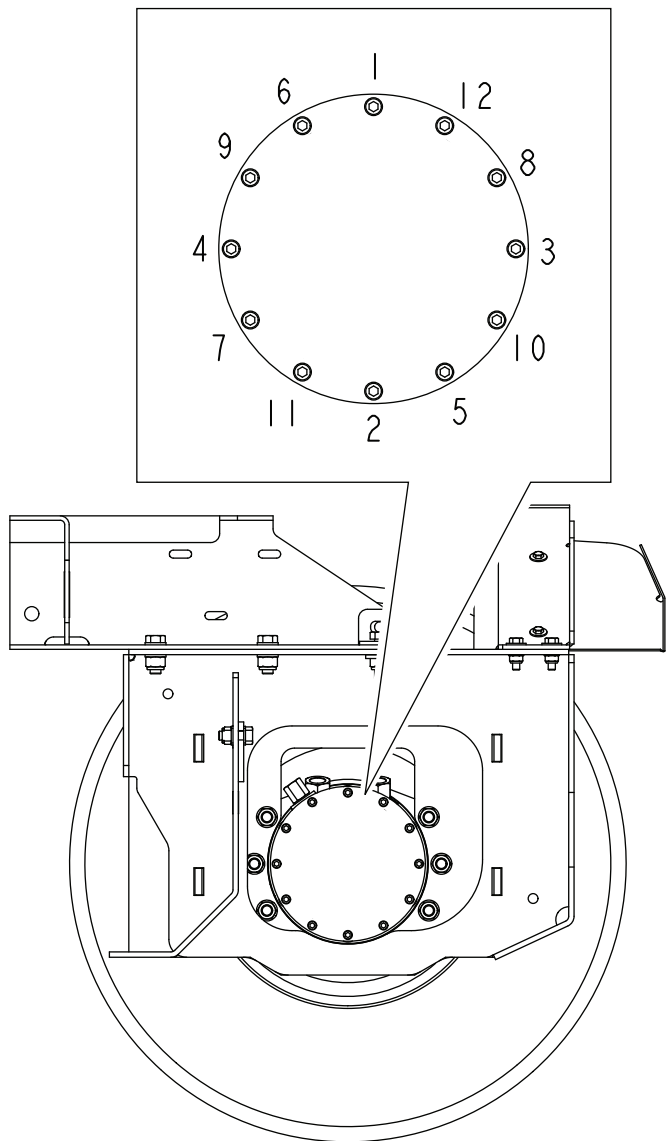

Figure 2
4. Loosen the end cover bolts using a M6 hex bit following the sequence shown in Figure 2. Loosen opposite bolts 1 full turn each in a star cross pattern following the sequence indicated. Repeat until all 12 bolts have been unscrewed by 2 complete turns only.
- A. Using a M6 hex bit and a torque wrench, torque the end cover bolts in a star cross pattern to 14 to 16 N·m (10 to 12 ft-lb); refer to Figure 2.